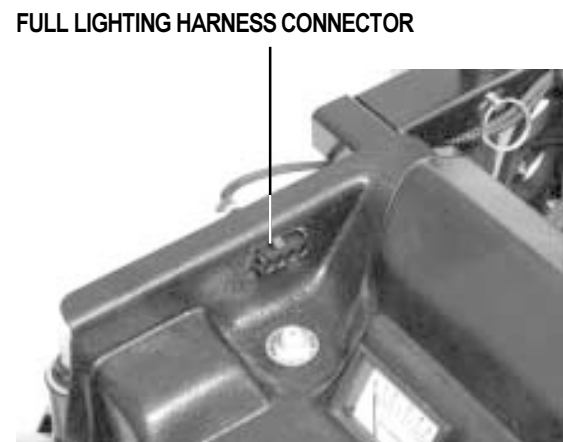

Figure 5. Full Lighting Harness Connector
- **Lighting Harness Connector (Optional):** This is where the optional lighting harness connects to the controller. See figure 5.